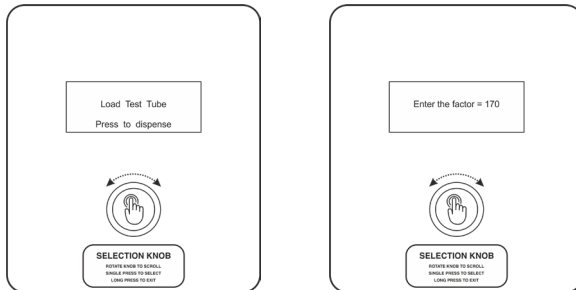

Fig. No. 24.2
• **H2O CALIBRATION** (Ref. Fig. No. 24.2)